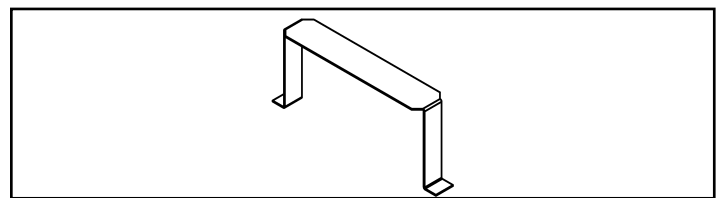

Figure 3N - Restrictor Plate.
* If the horizontal distance is less than 760mm (30 in.), the restrictor plate must be installed (see Figures 3N & 3O).